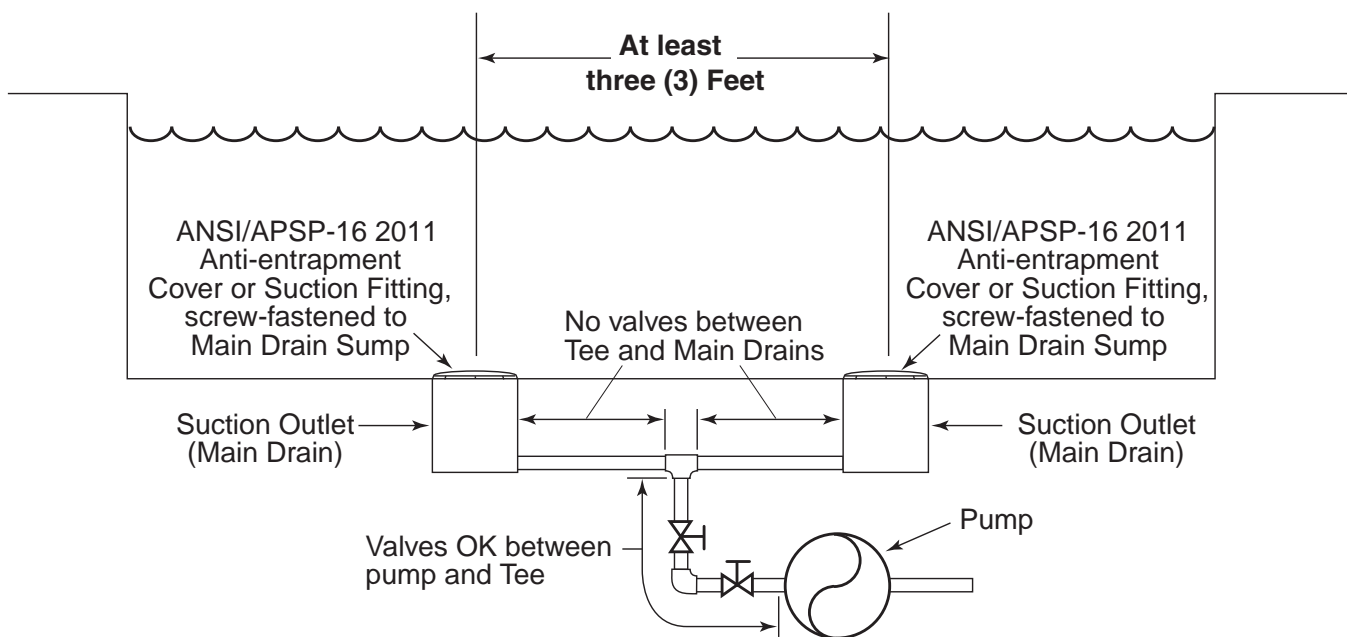

Figure 1: Outlets Per Pump
Pump suction is hazardous and can trap and drown or disembowel bathers. Do not use or allow anyone else to use a pool, spa, or hot tub unless it has at least two (2) suction outlets to each pump suction line (see Figure 1, Outlets Per Pump, below). Do not use or operate swimming pools, spas, or hot tubs if a suction outlet cover is missing, broken, or loose. Follow the guidelines below for a pump installation which minimizes risk to users of pools, spas, and hot tubs.
Provide at least two (2) hydraulically balanced main drains, with covers (see Figure 1), for each swimming pool pump suction line. The centers of the main drains (suction fittings) must be at least three (3) feet apart.
The system must be built so that it cannot operate with the pump drawing water from only one (1) main drain (that is, there must be at least two (2) main drains connected to the pump whenever it is running, see Figure 1). However, if two (2) main drains run into a single suction line, the single suction line may be equipped with a valve which will shut off both main drains from the pump (see Figure 1).